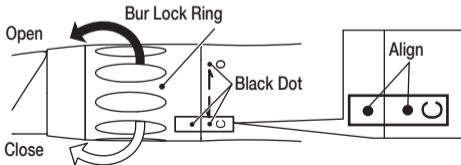

Fig. 2
- 1) Turn the Bur Lock Ring in the direction of mark [0] until it clicks. (Fig. 2)